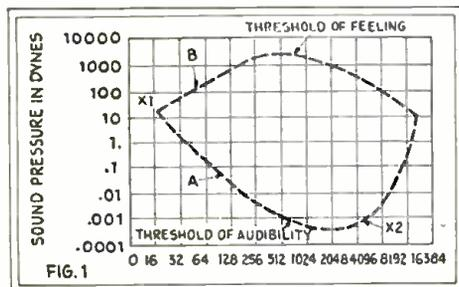

FIG. 1
Fig. 1 is a well-known diagram of the response of the human ear at various frequencies. (This graph is taken from “Speech and Hearing,” by Dr. Harvey Fletcher, of the Bell Laboratories, who is one of the great authorities on sound.) For our purpose, we will refer to the lower curve (A) which indicates the absolute mechanical power of a sound wave necessary to produce a perceptible effect upon the human ear. The upper curve (B)